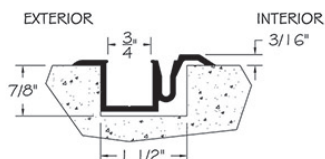

FIG 1: Assembling Frame
If the frame was delivered fully assembled then skip to Step 2. If the frame was not delivered assembled, assemble and screw together the four sections of the frame: (1) Head Jamb, (2) Jamb legs, (1) Sill using generous amounts of the provided high-quality silicone caulking **FIG. 1 on next page**. The head jamb will already have the upper pivot set at the edges of the frame and the intermediate carrier set will be free-floating in the upper track on the head jamb. The sill will have the lower pivot set only.